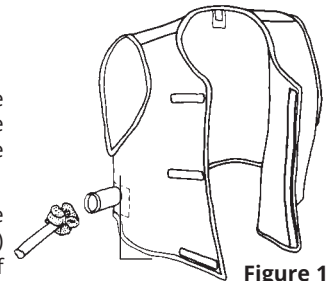

Figure 1
1. Insert the muffler end of the cooling vest connector hose well into the air entry sleeve of the vest (Figure 1).
The vest should mount over the belt with the Dual-Cool unit positioned in the "V" of the vest found on the right-hand side (Figure 1).